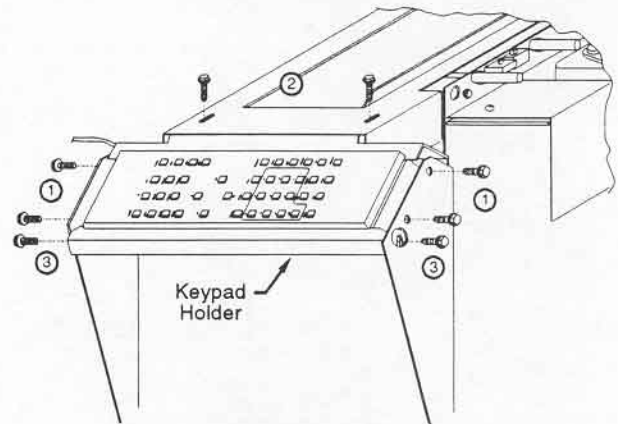

Figure 5-20. Keypad Removal
- c) See Figure 5-20. Remove the 4 hex head screws which secure the keypad holder to the side brackets then remove the top 2 hex head screws which secure the keypad holder to the top bracket.